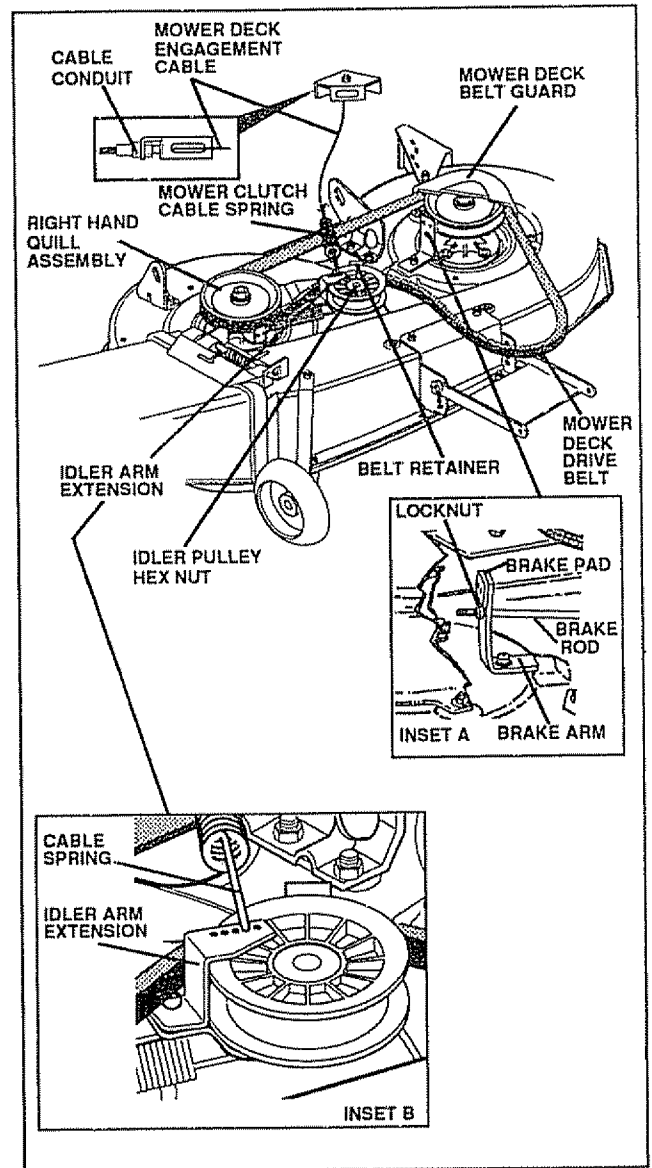

Fig. 28
(See Fig. 28)
- Note which one of five holes on front of idler arm extension is used for attaching mower clutch cable spring (see Fig. 28, inset B).
- Locknut, on end of brake rod, should be approximately 1/8 inch from brake pad mounting bracket with left hand brake pad against pulley of left hand quill assembly (See Fig. 28, inset A).